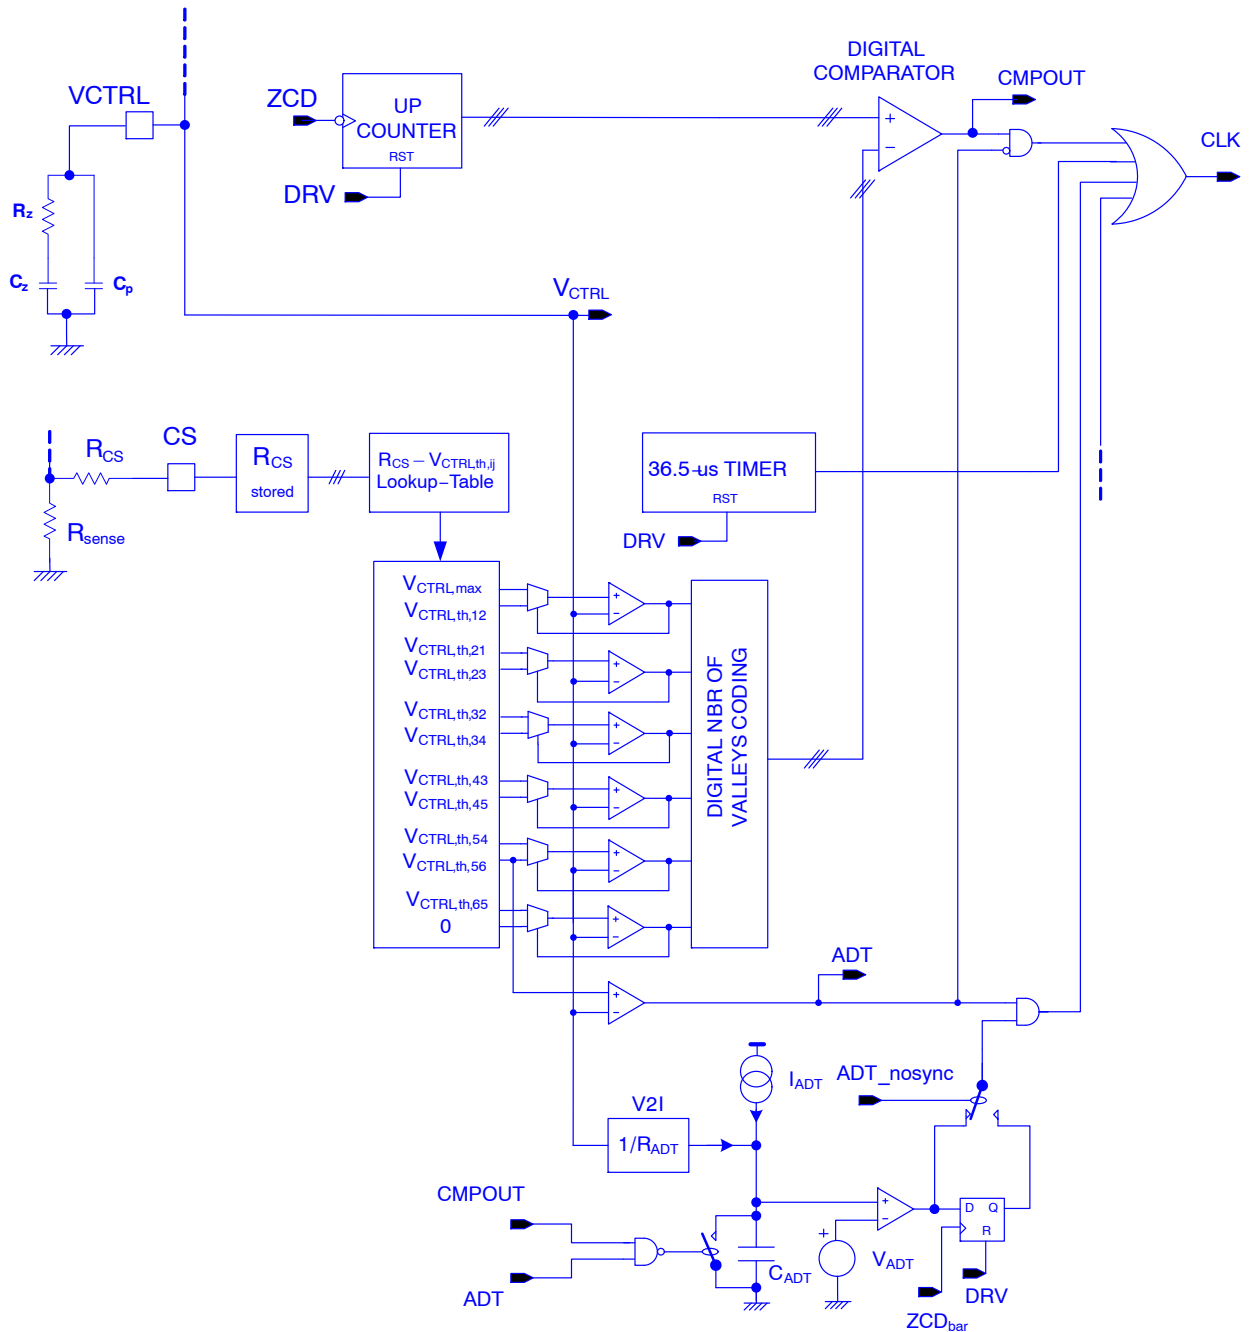
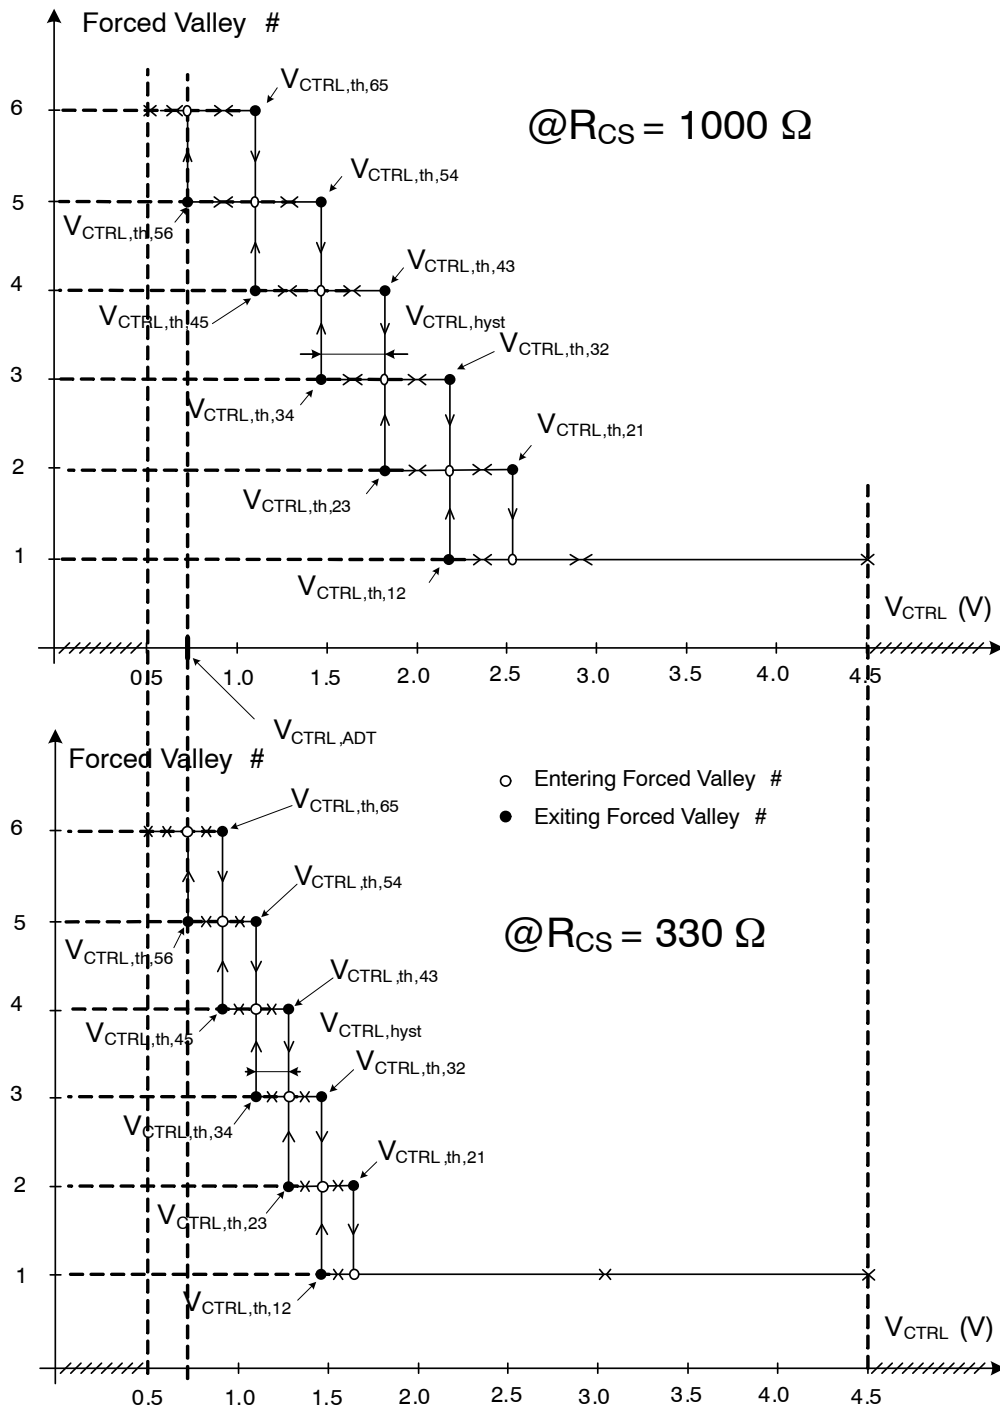

Figure 4. Valley Count Turn-on Block Diagram
Figure 7. Forced Valley Number versus VCTRL Pin Voltage For a Two Different RCS Values of the Mandatory List {150 Ω, 330 Ω, 620 Ω, 1000 Ω}
- **Valley Count Frequency Fold-back:** NCL2801 is designed to drive PFC boost stages in so-called Valley Count Frequency Fold-back (*VCF*). In high load current condition, the circuit classically operates in *Critical conduction Mode (CrM)* also called 1st valley switching. When output power is decreasing, if a threshold is reached (determined by sensing the CS pin impedance during initial power up), a dead time based on a number of valleys is added. The number of valleys will increase, each time a dead time window (based on  $V_{CTRL}$  value) is entered. By construction, this counting process will avoid valley hopping during the mains voltage period. If the output power continues decreasing and the 6th valley is reached, extra “analog” dead time will be added based on a voltage ramp (see Figure 4). On-time will be synchronized with a valley. A timer will clamp the total switching period to not exceed 36.5  $\mu$ s (the switching frequency will never go under about 27.4 kHz). The switching frequency depends on output voltage, input voltage, and boost inductor value, and increases as the load power increases. Hysteresis is added to the  $V_{CTRL}$  control windows to avoid valley hopping during steady state conditions. *VCF* maximizes the efficiency at both nominal and light load. Similarly to *FCCrM* controllers, an internal circuitry allows near-unity power factor even when the switching frequency is reduced.
valley number count up to 6 valleys (the number of valleys between end of inductor demagnetization and power MOSFET turn-on determines the dead time value). After counting is done, the power MOSFET turns on at drain voltage valley. When 6th valley is reached and VCTRL voltage stays under 0.77 V, an extra “analog” dead time is added based on a voltage ramp (see Figure 4). The added analog dead time  $t_{ADT}$  is based on 0.77 V minus VCTRL value.  $t_{ADT}$  will be equal to zero when  $(0.5\text{ V} - V_{CTRL}) = 0\text{ V}$  and will increase monotonically versus VCTRL decreases while VCTRL is under the 0.77 V threshold corresponding to  $V_{CTRL,th,56}$ . The analog dead time added  $t_{ADT}$  will equal typically 20  $\mu\text{s}$  when  $V_{CTRL}=0.5\text{ V}$ .
means of counting the falling edges of the ZCD signal until the counter reaches the number of valleys set by the window in which the VCTRL pin voltage is (see Figure 4). The 3-bit counter allows to work “Valley synchronized” up to 6 valleys. When the 6th valley is reached, and VCTRL is lower than 0.770 V ( $V_{CTRL,th,56} = 0.770$  V whatever frequency foldback threshold setting), an additional analog dead time will be added to the 6 valleys dead time and there will be valley synchronization turn-on of the power MOSFET ( $ADT\_nosync = 0$  by default) based on falling edge of ZCD signal. The total dead-time (number of valleys and extra analog dead-time) will not exceed 36.5  $\mu$ s. As a result of this timer the minimum switching frequency will not go under 27.4 kHz.
There will be a different DCM to CrM threshold than CrM to DCM making an hysteresis to avoid valley hopping (see Table 7 and Figure 4).
As shown in Figure 7, the forced number of valleys, shown in the Y-axis, depends on 5 VCTRL pin voltage windows,
results from output power decrease. We can also mention looking at Figure 7 and the specified frequency foldback thresholds of Table 7 that  $V_{CTRL,th,56}$  which is the  $V_{CTRL}$  threshold at which we force counting 6 valleys, has always the same value. This threshold is also called  $V_{CTRL,ADT}$  because when  $V_{CTRL}$  pin voltage falls under this threshold, an analog dead-time starts to be added to the dead-time determined by counting 6 valleys. The lower  $V_{CTRL}$  pin voltage goes under  $V_{CTRL,ADT}$  threshold, the more analog dead time is added. An example on how the analog dead time can be added is shown in the circuit of Figure 4 and the correspond power MOSFET drain voltage is shown in Figure 3.